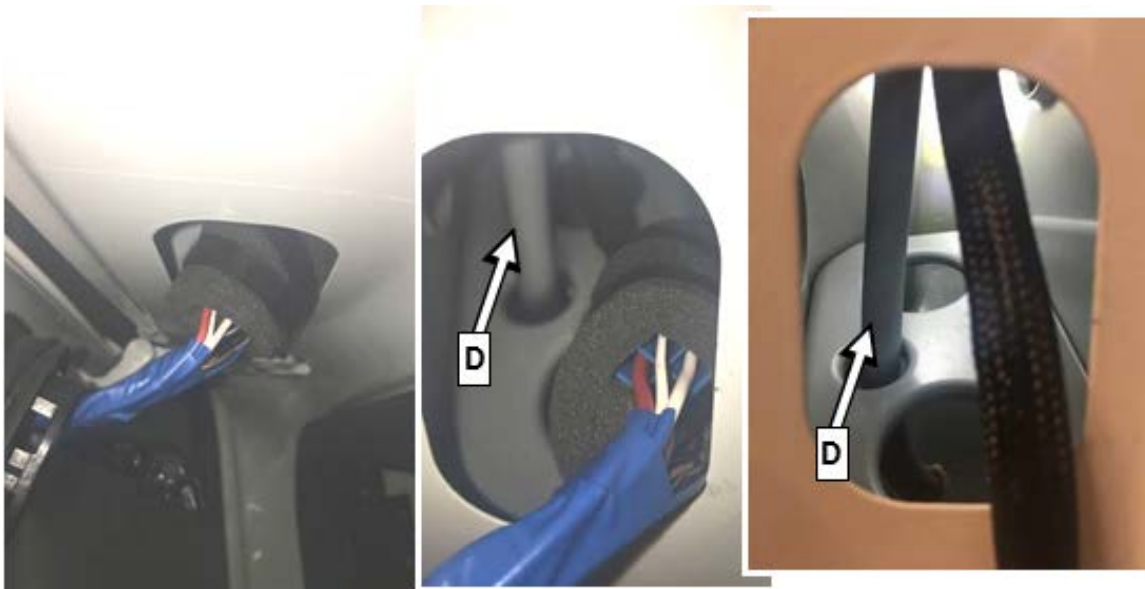

Figure 10
- i Place on left door on the right of the water hose (D, figure 10).